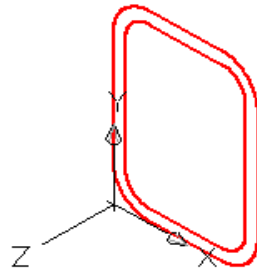
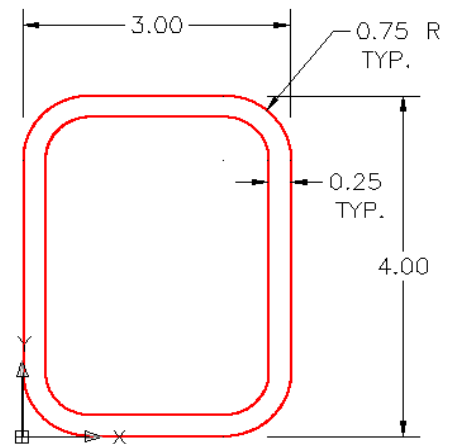

Figure Step 6B
Figure Step 6A
Step 6 With the UCS set to Front, draw a model of the object shown in the multiview drawing Figure Step 6A. Your drawing should appear as shown in Figure Step 6B. Draw the model anywhere in model space. Its location is not important.